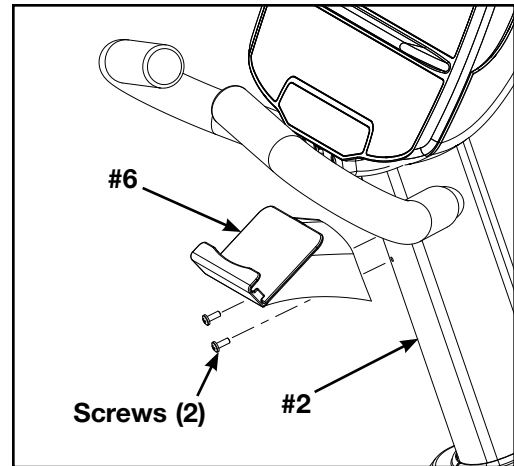

Figure 8
- A. Locate the accessory tray (#6). See Figure 8.